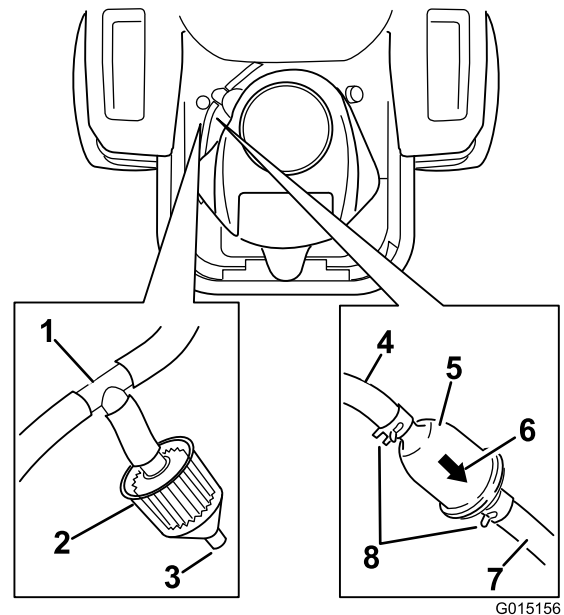

Figure 44
4. Raise the seat and locate the fuel filters as shown in Figure 44.
7. Install a new filter with the flow direction arrow coming from the fuel tank and pointing to the engine. Move the hose clamps close to the filter (Figure 44) to secure it in place.
The machine is equipped with a emissions filter (Figure 44) connected to a tee fitting on the vent line coming from the gas tank. The filter has an open port by design. The filter should be inspected regularly. Replace the filter if the filter is dirty or clogged.